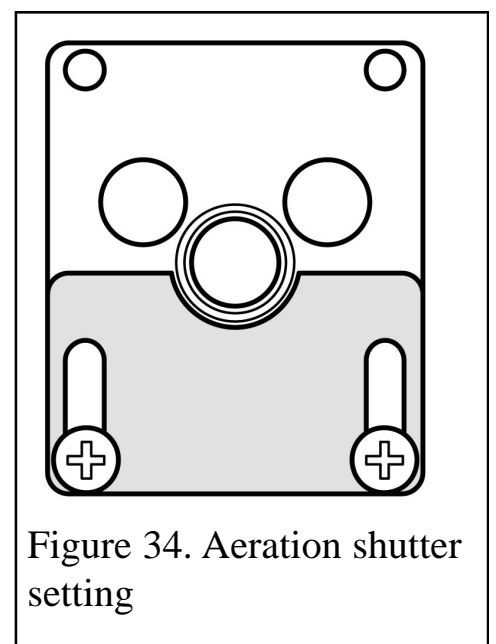

Figure 34. Aeration shutter setting
1. The aeration shutter is factory set and **will** require adjustment. **It is important to ensure that the aeration setting is correct (See figure 34).**
2. To adjust the aeration setting, loosen the two aeration shutter screws, slide the aeration shutter to the position shown in figure 34 and tighten the fixing screws.